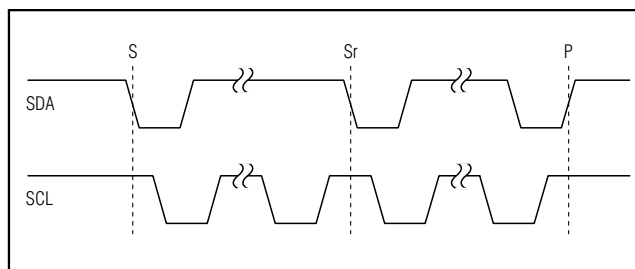

Figure 3. START and STOP Conditions
The master initiates a transmission with a START condition (S), (a high-to-low transition on SDA with SCL high). The master terminates a transmission with a STOP condition (P), (a low-to-high transition on SDA while SCL is high) (Figure 3). A START condition from the master signals the beginning of a transmission to the MAX5550. The master terminates transmission by issuing a STOP condition. The STOP condition frees the bus. If a repeated START condition (S_r) is generated instead of a STOP condition, the bus remains active.